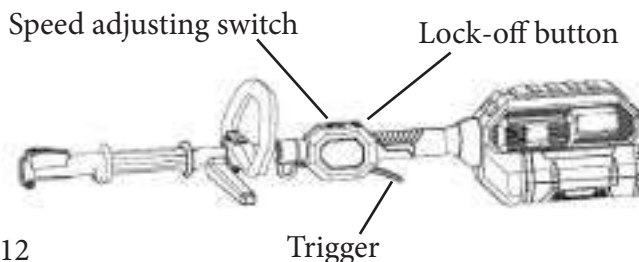

Fig. 12
- b) Push the speed adjusting switch to “SPORT” or “ECON” to change the speed. (Fig.12)